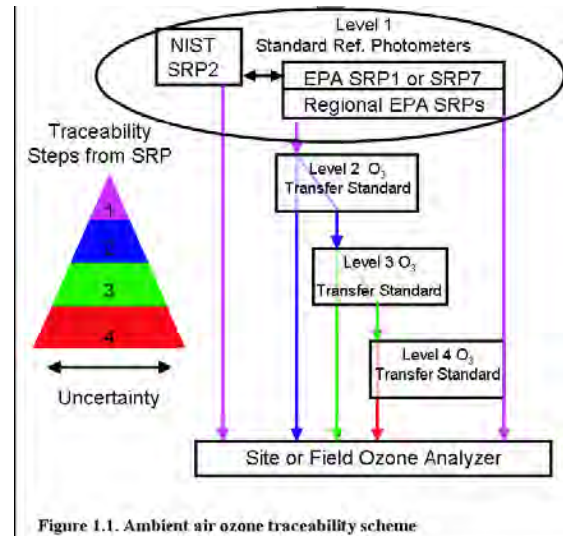

Figure 1.1. Ambient air ozone traceability scheme
Figure 1.1 represents the scheme that will be employed to ensure that the use of O3 transfer standards is applied in a manner that will ensure a specified level of measurement uncertainty and traceability. As
**Measurement uncertainty** describes a region about an observed value of a physical quantity, which is likely to enclose the true value of that quantity. Measurement uncertainty is related with both the systematic and random error of a measurement, and depends on both the bias and precision of the measurement instrument. At each measurement phase (e.g., levels in Fig. 1.1) errors can occur, that in most cases, are additive. This SOP will also discuss: